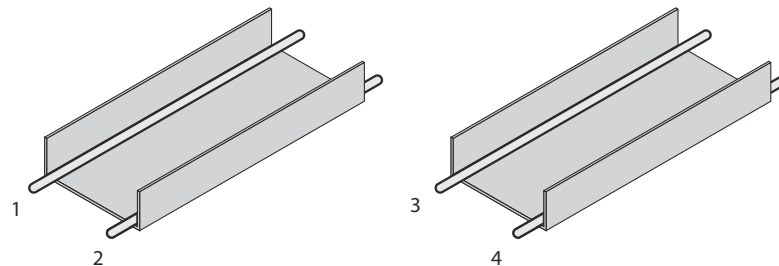
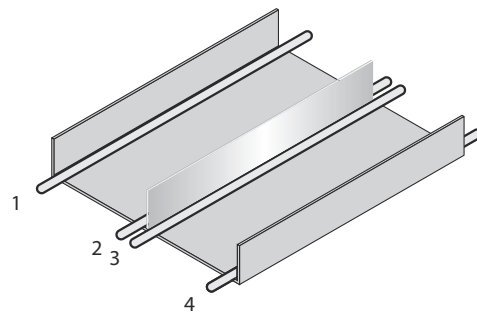

Figure 12: Ideal laying – Place cables in different cable ducts
Figure 13: Alternative laying – Separate cables with metallic separators
- ▶ Cables in groups 1, 2 and 3, 4 must be routed in different cable ducts or metallic separators must be used, see figure 12 and see figure 13. This applies particularly where cables of devices with a high level of radiated emission, such as frequency converters, are laid parallel to sensor cables.